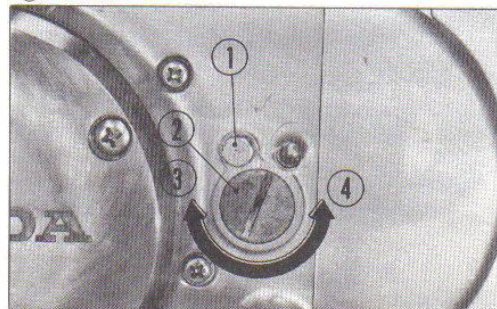

Fig. 10.
- ① Lock nut ② Adjuster screw ③ Increase
④ Decrease
4. Minor adjustment can be performed with the adjuster after loosened the lock nut at the clutch lever. (Fig. 10)